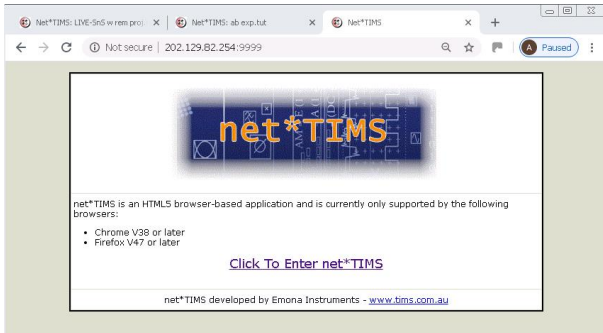

Figure 2.1: net*TIMS web home page
- The home page displayed below in figure 2.1 comes directly from the on-line net*TIMS Server.